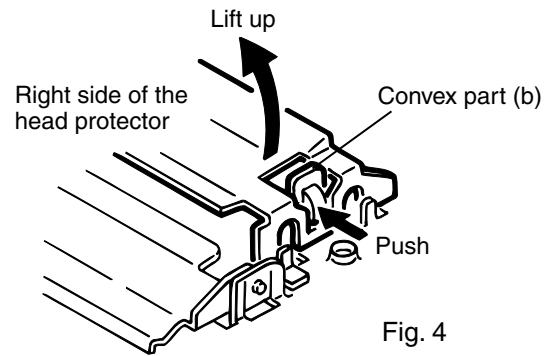

Fig. 4
2. Push the convex part b on the right side of the head protector in the direction of the arrow. Lift the right edge of the head protector (See Fig.4).